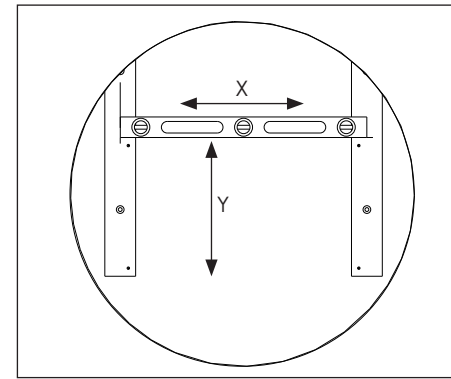

Figure 12: Measure and Mark First Panel Location
1. Measure and mark the correct panel location. Refer to **Figure 12**.